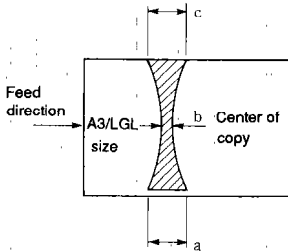

Figure 4-97
- 4) Measure the width over which the toner is shiny; see Figure 4-97.